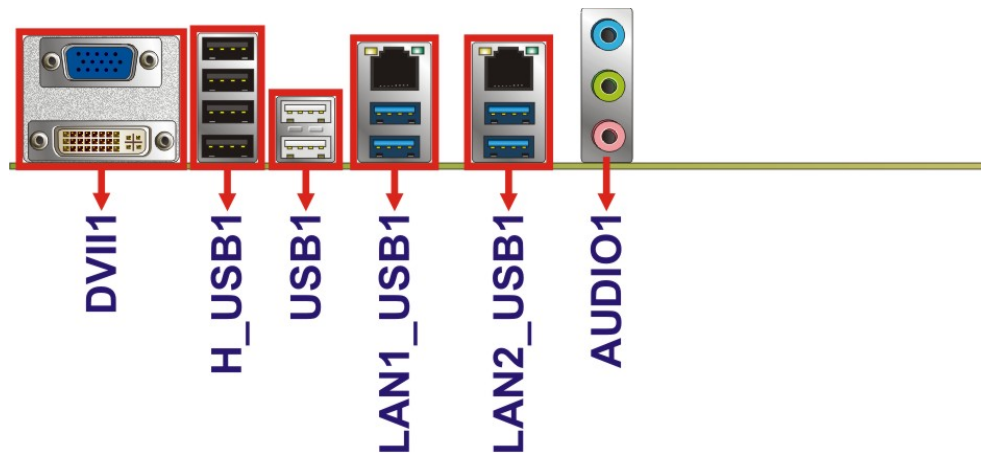

Figure 3-34: External Peripheral Interface Connector
CN Location: See **Figure 3-34**
CN Location: See Figure 3-34
See Figure 3-34
- CN Location:** See **Figure 3-34**